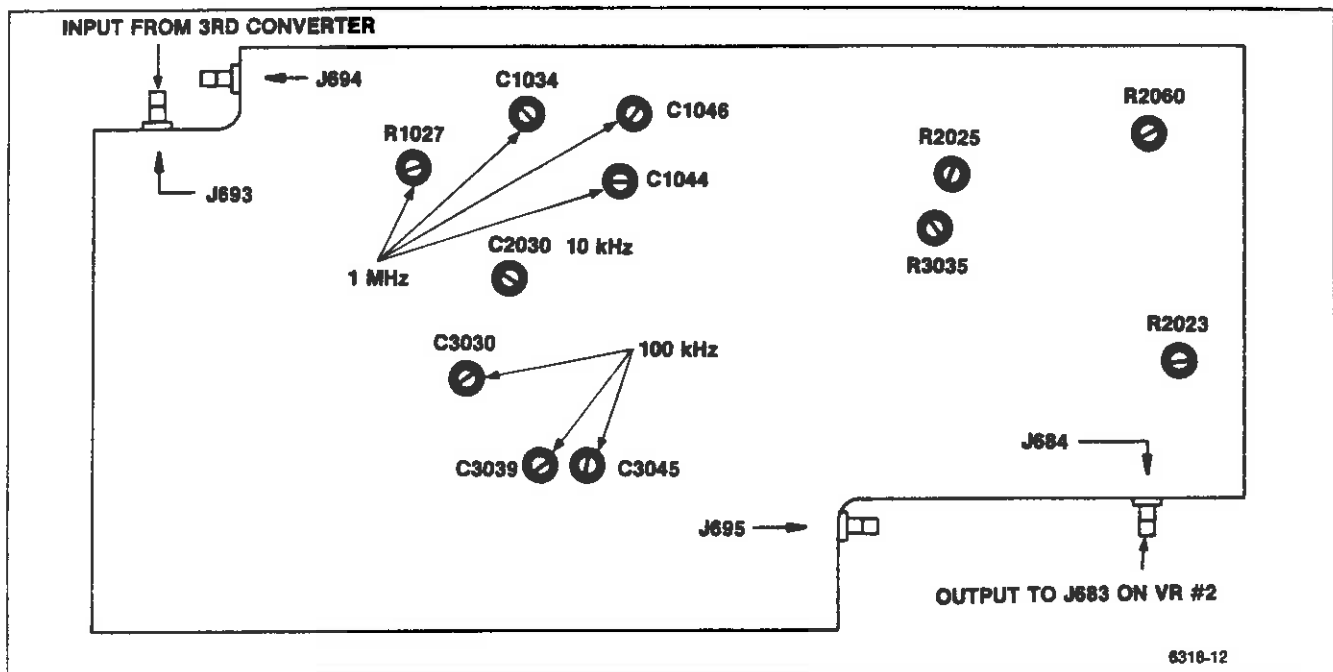
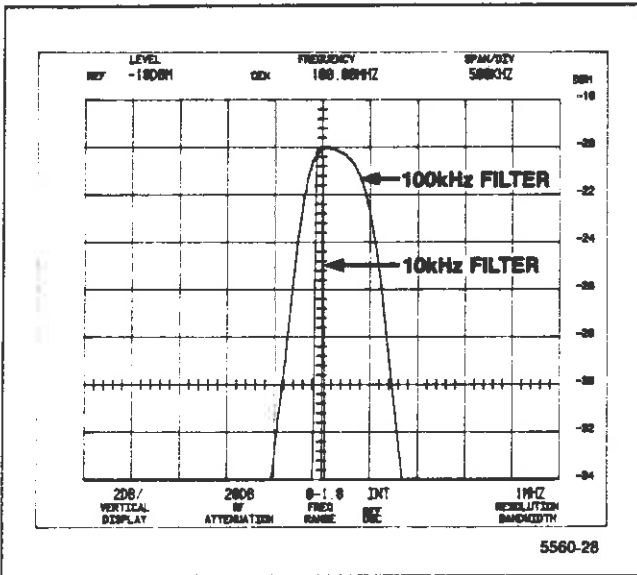
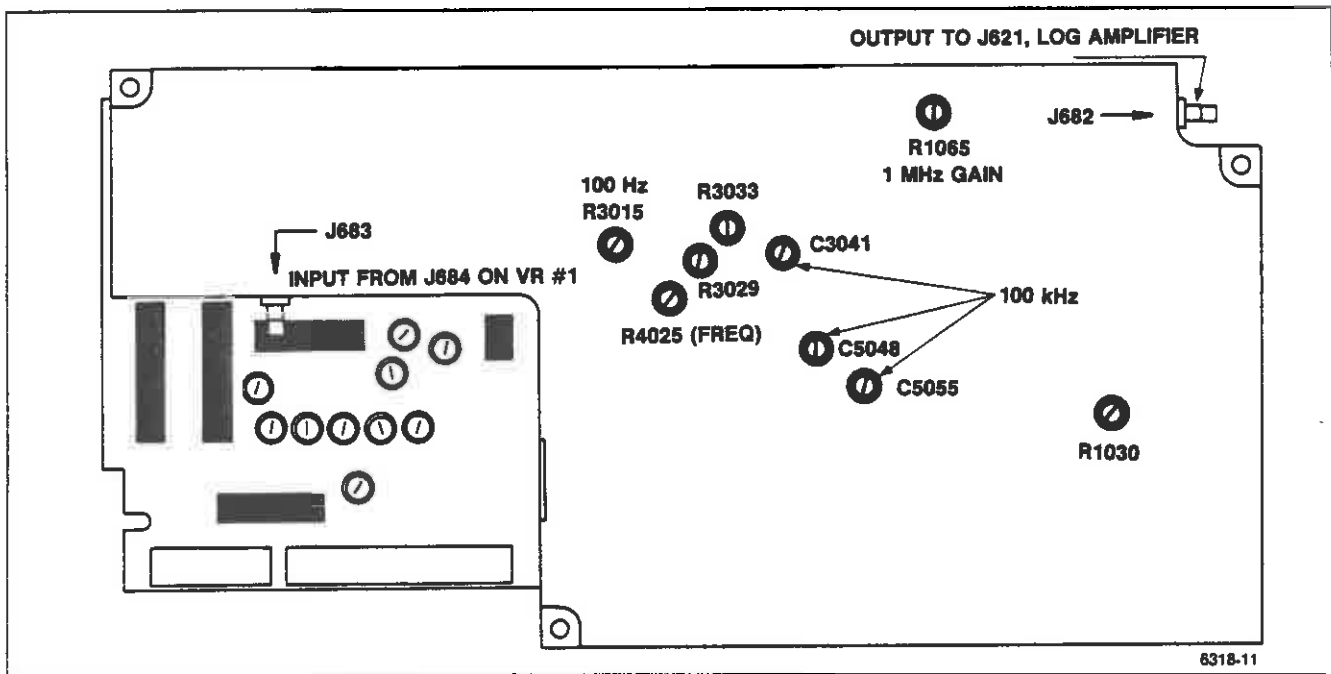

Figure 5-15. Adjustments on the rear of the Variable Resolution module.
Figure 5-16. 100 kHz over 10 kHz filter response.
Figure 5-17. Adjustments on the front of the Variable Resolution module.
d. Adjust the four tuning screws (capacitors) on the 110 MHz Bandpass Filter (FL36) for the best 3 MHz filter response (3 MHz bandwidth  $\pm 600$  kHz, 6 dB down) that is centered about the 10 kHz reference. Refer to Figure 5-16.
f. Adjust C1034, C1044, and C1046, and R1027 on the VR 2nd Filter Select board (Figure 5-15) for the best 1 MHz filter response (1 MHz bandwidth, 3 dB down, that is centered about the 10 kHz reference). Refer to Figure 5-16.
h. Adjust C5055, C5048, and C3041 on the VR 2nd Filter Select board (Figure 5-17) for the best 100 kHz filter response (100 kHz bandwidth, 3 dB down, that is centered about the 10 kHz reference). Refer to Figure 5-16.
(4) Adjust R4025 on the VR 2nd Filter Select board (Figure 5-17) for maximum signal amplitude.
(29) Press RECALL SETTINGS 2.
(30) Adjust C4060 in the 10 Hz/100 Hz Bandpass Filter assembly for best symmetry.
(31) Repeat parts 28 through 31 to eliminate interaction.
(32) Remove all jumpers from the 10 Hz/100 Hz Bandpass Filter assembly.
o. Adjust C2030 (Figure 5-15) for the best 10 kHz response centered about the 1 kHz reference.
r. Adjust C3045, C3039, and C3030 (Figure 5-15) for the best 100 kHz response centered about the 10 kHz filter reference.
(1) Remove the cover for the VR 2nd Filter Select board. Disconnect the jumper connector to the input of the Post VR Amplifier (pin JJ).
(2) Apply a 10 MHz, -14 dBm signal, from a 50Ω signal source, to pin JJ of the amplifier.
(3) Adjust Post VR Gain R1030 (Figure 5-17) on the Post VR Amplifier board for a full screen display.
(4) Remove the signal from the input to the Post VR Amplifier and replace the jumper connector to pins JJ at the input to the Post VR Amplifier. Replace the cover for the VR 2nd Filter Select board.
e. Disconnect P693 (Figure 5-17) and activate MIN NOISE. Apply a 10 MHz,  $-25$  dBm signal, from the signal generator, through a bnc-to-Seaelectro adapter to J693. Set the generator frequency to peak the signal amplitude. (Signal amplitude should be between 3.5 and 6.5 divisions. If signal amplitude is not within these limits it indicates a gain problem in the Variable Resolution module.)
h. Switch MIN NOISE off, decrease the generator output to  $-35$  dBm, leave the REF LEVEL at  $-20$  dBm, and adjust the 10 dB Gain R3035, on the 10 dB Gain board (Figure 5-17) so the signal amplitude is 7 divisions.
i. Change the generator output to  $-45$  dBm, the REF LEVEL to  $-40$  dBm, and adjust the 20 dB Gain R2023 on the 20 dB Gain Step board (Figure 5-17) for a 7 division signal amplitude.
j. Change the generator output to  $-65$  dBm, the REF LEVEL to  $-60$  dBm, and adjust the 10 dB Gain R2060 on the 20 dB Gain Step board (Figure 5-17) for a 7 division signal amplitude.